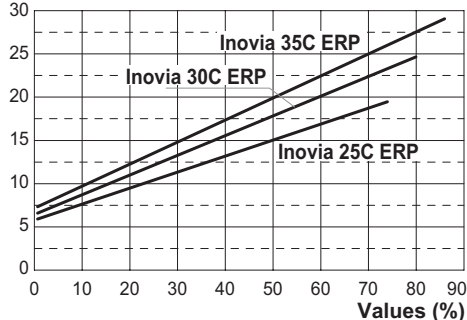
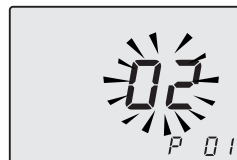
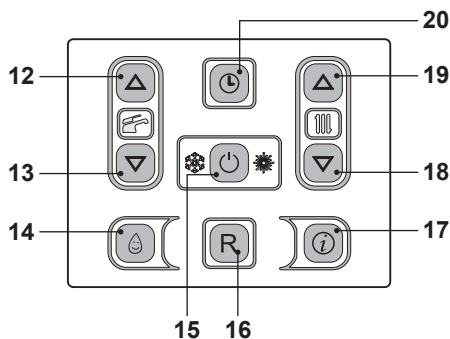

Fig. 8.30
Fig. 8.31
Fig. 8.32
Refer to Fig. 8.30 and determine the correct Value appertaining to the output required for the central heating requirement.
- Enter the "programming mode" by sequentially pressing keys 15 - 18 - 19 (Fig. 8.32) for 10 seconds at the same time until the letters **P01** are displayed on the LCD display, indicating that "parameter 01" (Fig. 8.31) has been activated.
- It is possible to modify parameter using keys 12 or 13 (Fig. 8.32) (Refer to Fig. 8.30 and determine the correct Value appertaining to the output required for the central heating requirement.).
- By pressing key 15 (Fig. 8.32) confirmation of the inserted value is obtained.
- Press keys 18 or 19 (Fig. 8.32) to exit without changing the value.